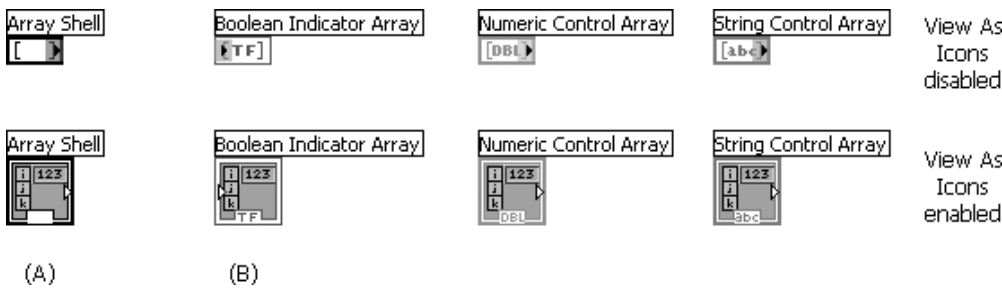

Figure 7.3
When you first drop an array shell on the front panel, its block diagram terminal is black, characteristic of an undefined data type. The terminal also contains brackets (when **View As Icon** terminal option disabled) or an array icon (when **View As Icon** is enabled), shown in part (A) of Figure 7.3, which are LabVIEW's way of denoting an array structure. When you assign a data type to the array (by placing a control or indicator in its element display window), then the array's block diagram terminal assumes its new type's color and lettering, as in part (B). You will notice that array wires are thicker than wires carrying a single value.